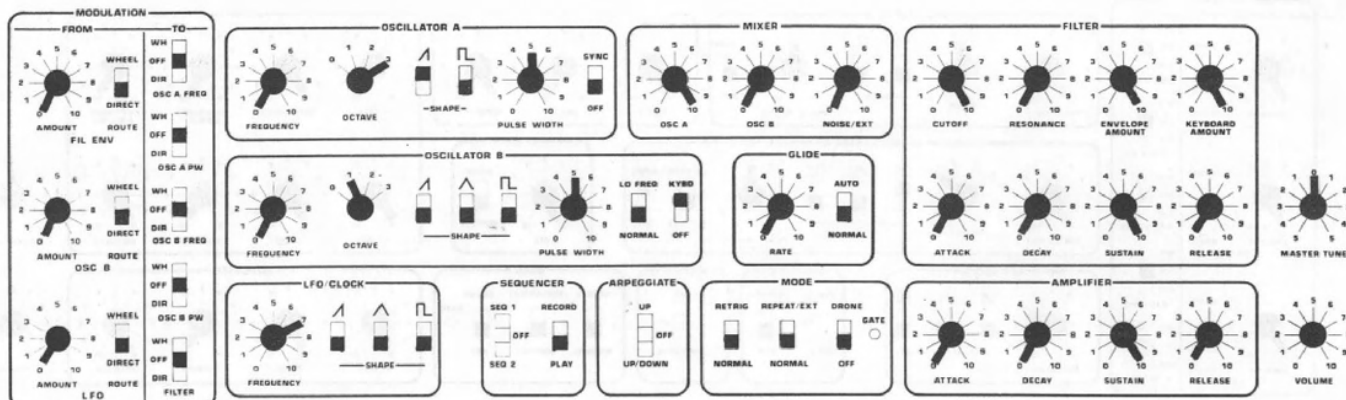

Figure 1-1
1. Patch according to Figures 1-1 or 1-2. The essential features of these patches are a fully "open" AMPLIFIER and FILTER, the sawtooth of one oscillator is on, and there is no modulation.
1. Patch according to Figure 1-1.